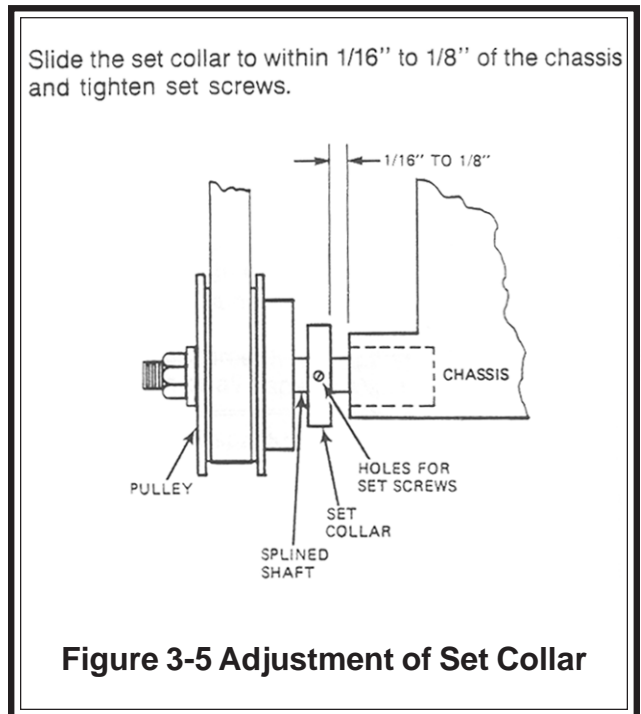

Figure 3-5 Adjustment of Set Collar
3.2.5 Adjustment of Set Collar (Figure 3-5)
Safety set collar needs adjustment	Adjust safety set collar as shown previously in Figure 3-5